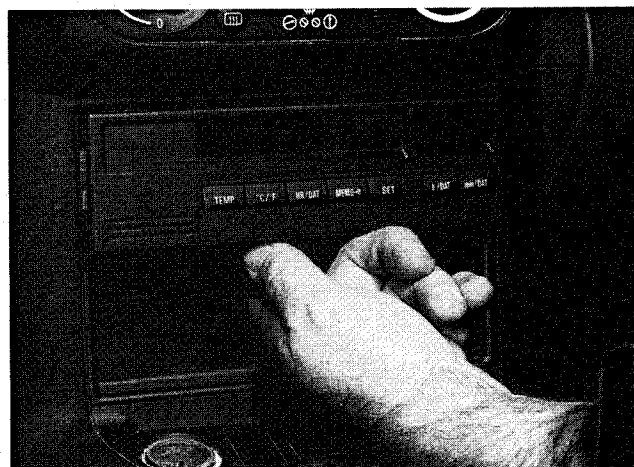

Fig. 9. Removing the Multi-Information Display (MID) module.
1. Remove dashboard parcel shelf. Reach under MID module and push outward. See Fig. 9.